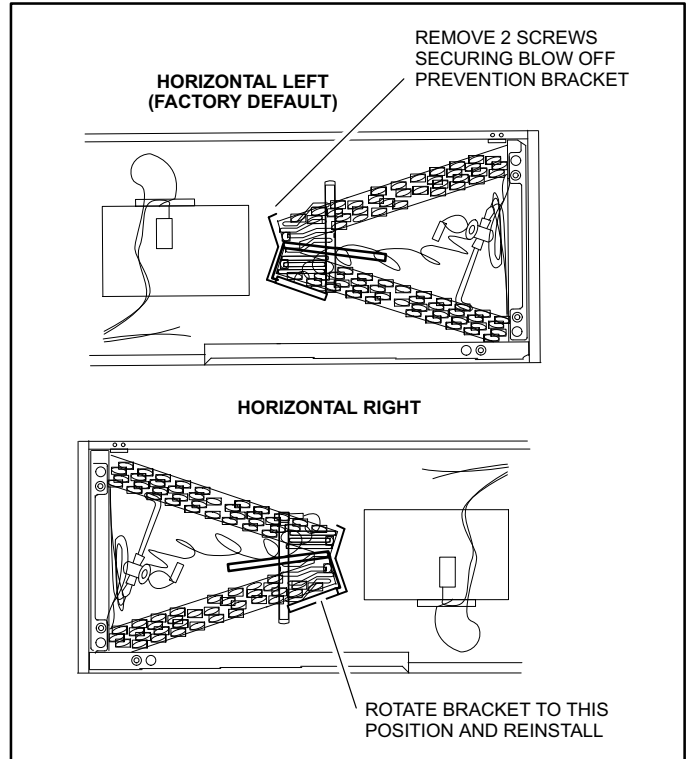

Figure 22. Blow-Off Prevention Plate
6. Remove two screws securing the blow-off prevention bracket. Rotate the brackets 180° and reinstall using the same screws. See figure 22.